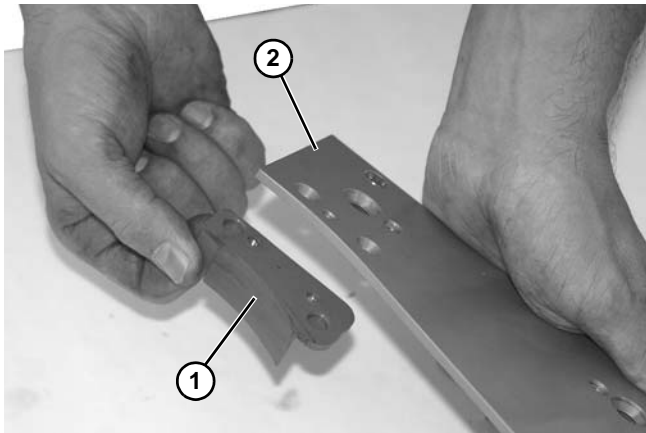

Figure 133
3. Remove lower retaining guide (**Figure 133, item 1**) from drive plate (**Figure 133, item 2**).